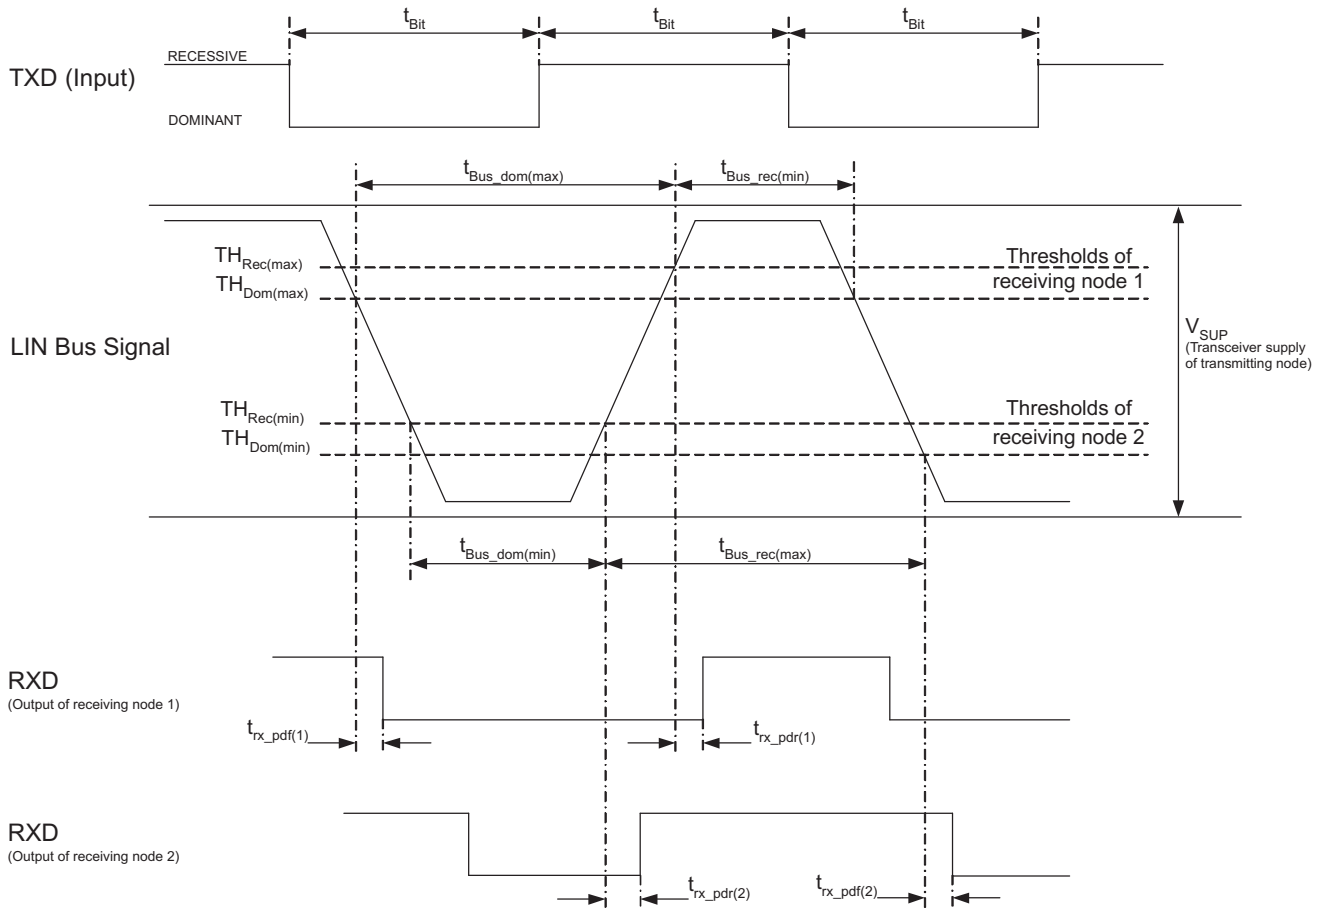

Figure 1. Definition of Bus Timing Parameters
| D1            | Duty cycle 1 (1) (2)                                 | $T_{HREC(max)} = 0.744 \times V_{SUP}$ , $T_{HDOM(max)} = 0.581 \times V_{SUP}$ , $V_{SUP} = 7.0\text{ V to }18\text{ V}$ , $t_{BIT} = 50\ \mu\text{s}$ (20 kbps), See <a href="#">Figure 1</a>   |     | 0.396 |                      |
| D2            | Duty cycle 2 (1) (2)                                 | $T_{HREC(max)} = 0.284 \times V_{SUP}$ , $T_{HDOM(max)} = 0.422 \times V_{SUP}$ , $V_{SUP} = 7.6\text{ V to }18\text{ V}$ , $t_{BIT} = 50\ \mu\text{s}$ (20 kbps), See <a href="#">Figure 1</a>   |     | 0.581 |                      |
| D3            | Duty cycle 3 (1) (2)                                 | $T_{HREC(max)} = 0.778 \times V_{SUP}$ , $T_{HDOM(max)} = 0.616 \times V_{SUP}$ , $V_{SUP} = 7.0\text{ V to }18\text{ V}$ , $t_{BIT} = 96\ \mu\text{s}$ (10.4 kbps), See <a href="#">Figure 1</a> |     | 0.417 |                      |
| D4            | Duty cycle 4 (1) (2)                                 | $T_{HREC(max)} = 0.251 \times V_{SUP}$ , $T_{HDOM(max)} = 0.389 \times V_{SUP}$ , $V_{SUP} = 7.6\text{ V to }18\text{ V}$ , $t_{BIT} = 96\ \mu\text{s}$ (10.4 kbps), See <a href="#">Figure 1</a> |     | 0.590 |                      |
| $t_{rx\_pdr}$ | Receiver rising propagation delay time                          | $R_L = 2.4\text{ k}\Omega$ , $C_L = 20\text{ pF}$ , See <a href="#">Figure 1</a>  |     | 6     | $\mu\text{s}$        |
| $t_{rx\_pdf}$ | Receiver rising propagation delay time                          | $R_L = 2.4\text{ k}\Omega$ , $C_L = 20\text{ pF}$ , See <a href="#">Figure 1</a>  |     | 6     | $\mu\text{s}$        |
| $t_{rx\_sym}$ | Symmetry of receiver propagation delay time (rising edge)       | with respect to falling edge, See <a href="#">Figure 1</a>  |     | -2    | 2 $\mu\text{s}$      |
| $t_{NWake}$   | NWake filter time for local wake-up                             | See <a href="#">Figure 1</a>  |     | 25    | 50 100 $\mu\text{s}$ |
| $t_{LINBUS}$  | LIN wake-up filter time (dominant time for wake-up via LIN bus) | See <a href="#">Figure 1</a>  |     | 25    | 50 100 $\mu\text{s}$ |
| $t_{DST}$     | Dominant state timeout (3)                           | See <a href="#">Figure 1</a>  |     | 6     | 9 14 ms              |